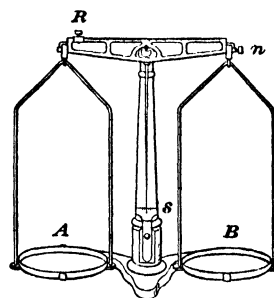

FIG 3
**II. By weight of water contained by cylinder** (a) *Weighing cylinder by method of substitution.* Place the empty cylinder with its ground-glass cover on the pan  $B$  (Fig 3) of the balance and add to pan  $A$  any convenient objects, such as pieces of iron, shot, and bits of paper, until the pointer stands opposite the middle mark at  $s$ , the rider  $R$  being at zero
(b) *Weighing cylinder by usual method* Remove the weights from pan *B*, keeping all of these weights together for this weighing also. Empty pan *A*, move *R* to its zero point, and bring the pointer to the middle mark by altering, if necessary, the nut *n* (Fig 3). Then place the object on pan *A* and the weights used in (a) on pan *B* and again bring the pointer to the middle mark by using the rider *R* as before. Unless the difference in the two weighings is larger than one or two tenths of a gram, you may henceforth use the second, or usual,\* method of weighing, for the imperfections in inexpensive commercial weights, such as we are using, are likely to amount to as much as a tenth of a gram. It was for this reason that precisely the same weights were used in both (a) and (b).